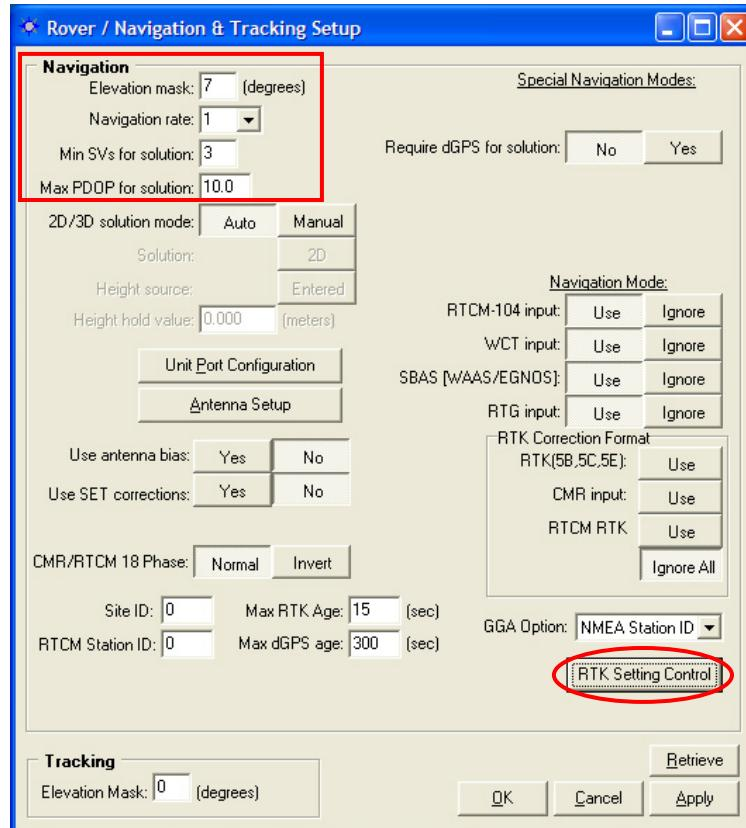

Figure 41: StarUtil-2100 -- Rover / Navigation & Tracking Setup Window
23. Click the  icon on the toolbar to configure the rover. The *Rover / Navigation & Tracking Setup* window opens (see Figure 41).
24. Set the options, as desired (see Figure 41):
Refer to Figure 41 for these two options: